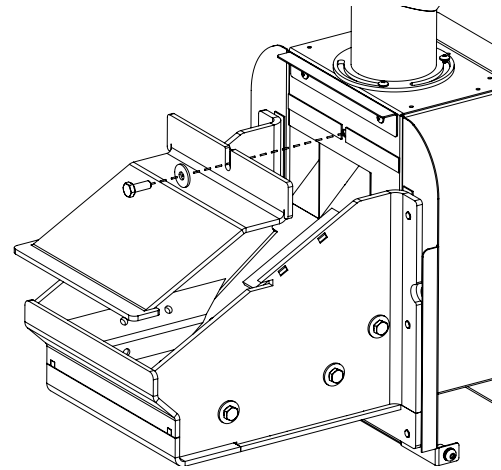

Fig. 19 Dismounting the deflector from the burning chamber.
1. Unscrew the bolt on the top of the burning chamber. Dismount the deflector plate (Fig. 19);